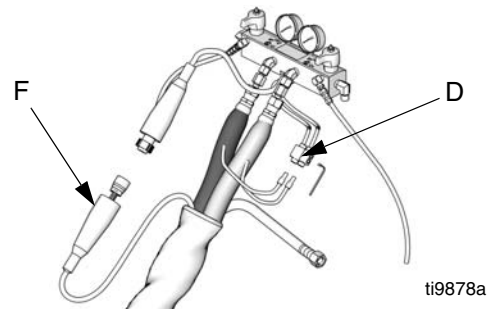

FIG. 11. Heated Hose
3. Disconnect hose connector (D) at Reactor, FIG. 11.
4. Using an ohmmeter, check between the two terminals of the connector (D). There should be continuity.
3. Disconnect FTS cable (F) at Reactor, FIG. 11.
3. Remove tape and protective covering from FTS (21), FIG. 11. Disconnect hose cable (F). Test with ohmmeter between pins of cable connector.